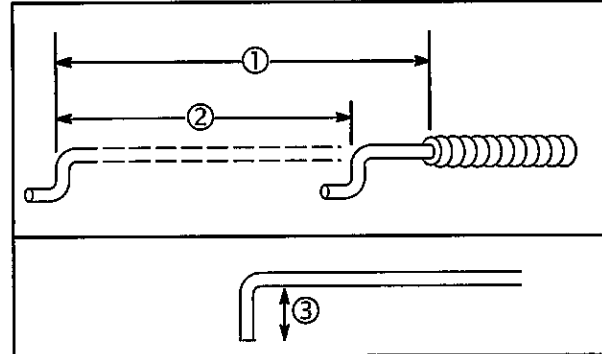

Fig. 4
In order to make proper remote control adjustments, the remote control wire must have travel of **not less than 1-3/8" (35 mm) (2)** with controls mounted in equipment, Fig. 4. The dimension from the end of the cable casing to the wire at the end of its travel (1) is **2-1/8" (54 mm) minimum**.